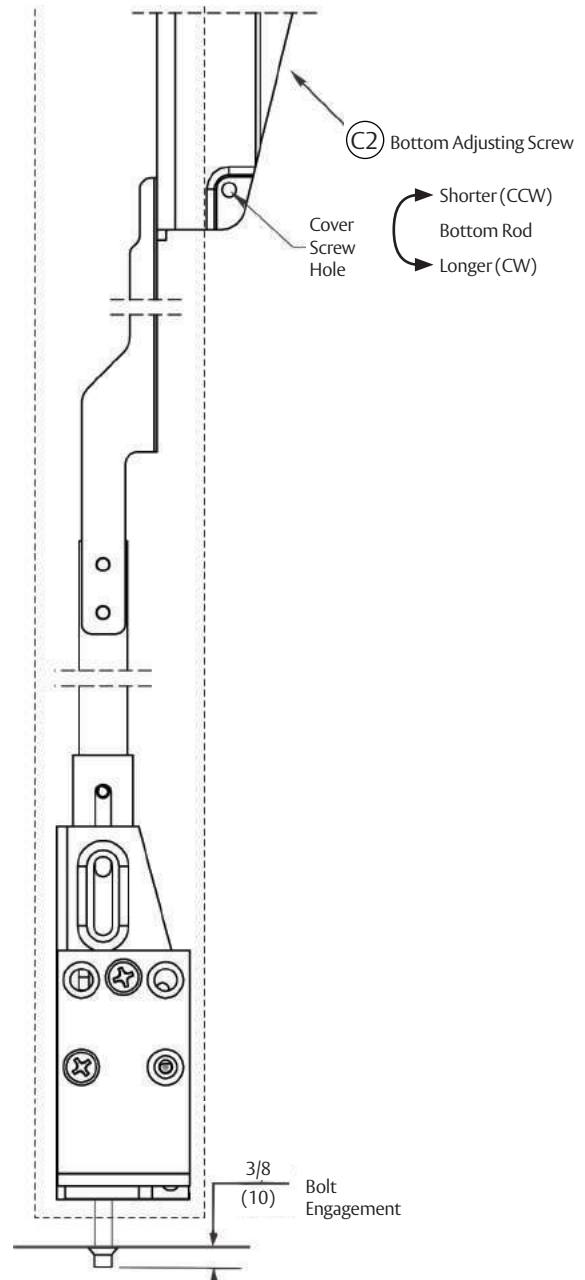

Figure 21
- e. Adjust bottom rod with adjusting screw C2. (Figure 21)